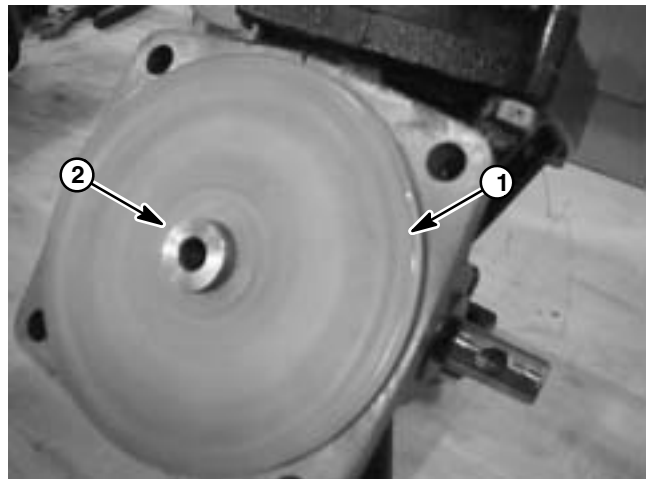
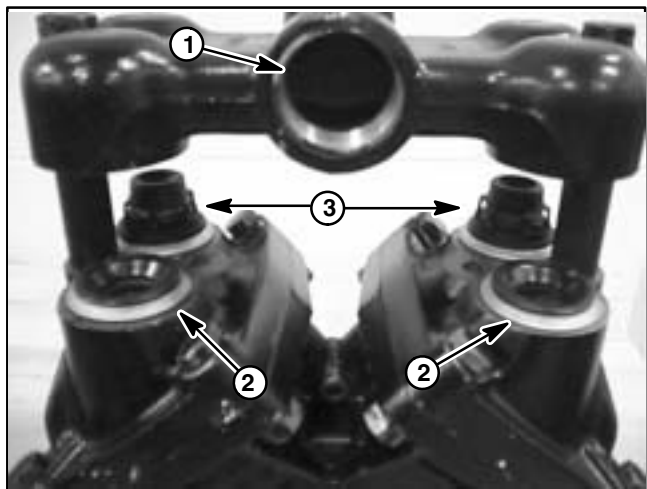

Figure 11
Figure 12
4. Place diaphragm back disc and new diaphragm onto each connecting rod. The connecting rods should extend above the diaphragms when correctly installed (Fig. 11). Position nylon washer and washer on each connecting rod and then thread hex bolt into connecting rod. Torque bolt to 60 ft-lb (80 N-m).
5. Make sure that pump casings align and then secure pump casing assembly by torquing five (5) bolts to 32 ft-lb (44 N-m).
7. Place new o-rings and valves into diaphragm cover openings (Fig. 12). Inlet valves should be installed with the spring down into the cover. Outlet valves should be installed in with the spring up and away from cover.
8. Place valve chamber over valves noting orientation of chamber inlet and outlet. Secure valve chamber with two (2) hex bolts. Torque bolts 60 ft-lb (80 N-m).